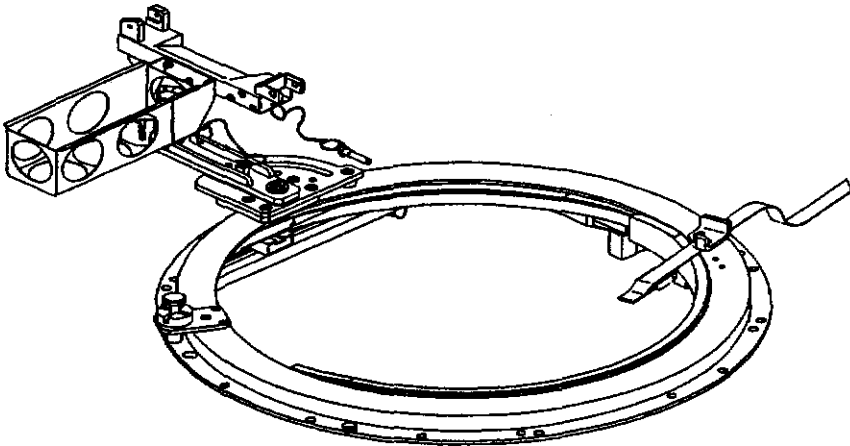

Figure 4-5 MG Ring and Mount
411. The upper centre front of the body has a circular opening that permits a soldier access to observe the surrounding area. A ring mounted on the exterior of the opening is equipped to mount a MG. The gun mounting assemblage rotates around the ring when a spring loaded locating pin in the ring lock is lifted from one of the sixteen locating points in the ring. The pin can be locked into the raised position by rotating through 90 degrees and lowered by rotating a further 90 degrees. The mount permits elevation of the MG to 60 degrees, depression of three (3) degrees and a 360 degree arc of fire. The MG ring and mount are shown in Fig. 4-5.